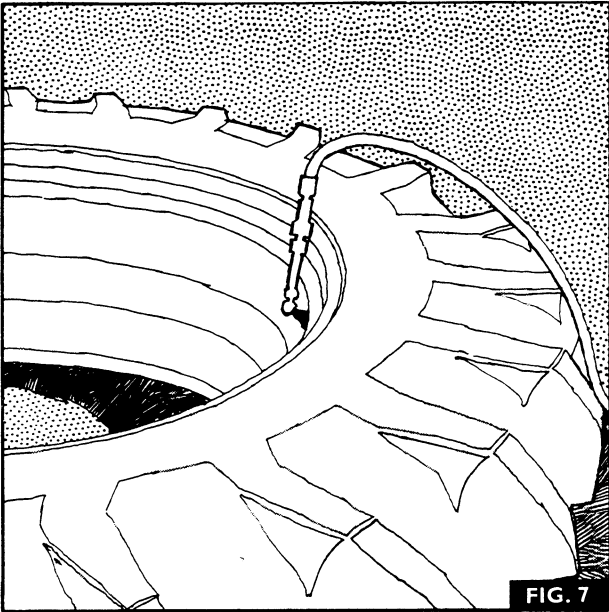

FIG. 7
3. Fig 7. Centre the tyre on the rim and inflate to approx. 2,5kg/cm2 (35lb/in2).